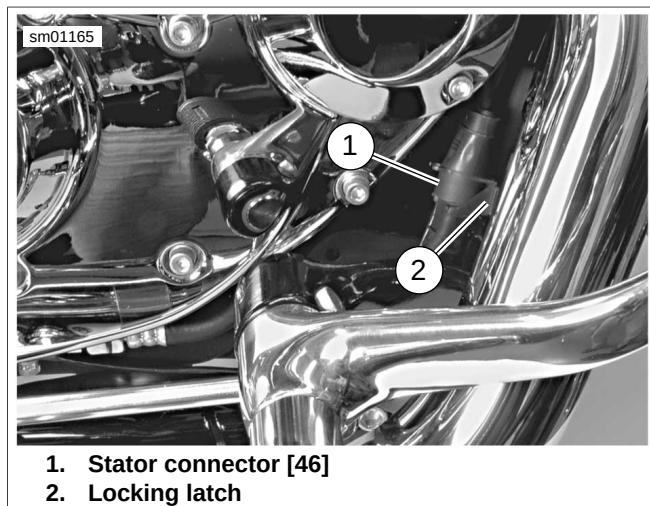

Figure 6-3. Stator Connector [46] Location
5. See Figure 6-3. Plug stator connector [46A] (1) into socket connector [46B]. Fold external locking latch (2) over and lock in place.